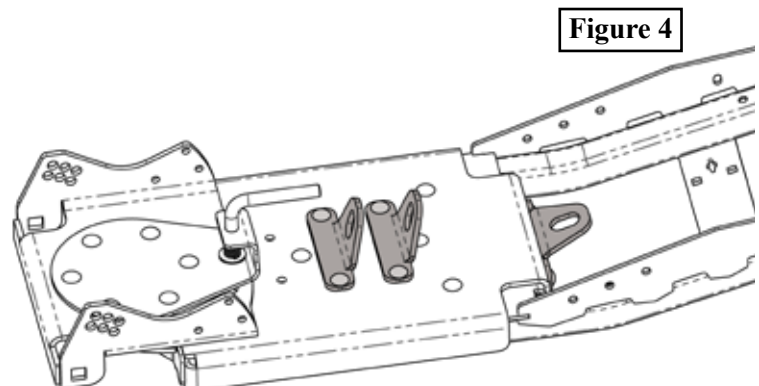

Figure 4
5. Hold Wing Flap (2) in place and secure using 5/16 bolts (3.1) and 5/16 nuts (3.6) as shown in **Figure 4**.
“Figure 4 Blade Install”
5. The lift hook can be relocated if it gives a better lift angle from your machine, 3 options are shown in **Figure 4**.